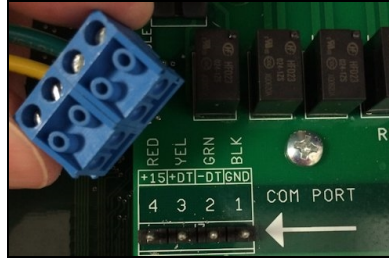

Figure 3
- If, for example, the external controller is using the data port for an indoor controller, add wires to the existing configuration. *Connectors can be removed from terminals for ease in connecting wires. See Figure 3*